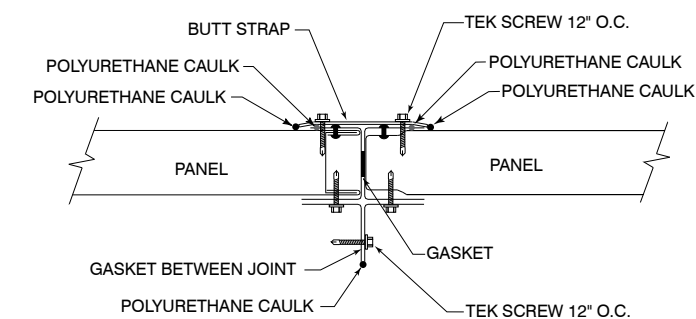

FIGURE 6. Detail of field joint located on side.
- 3) Adjoining ends of modules are covered with plywood and/or plastic sheets during transport. This must be removed prior to hoisting the modules in place. (See **FIGURE 6**). If installation
- 6) After positioning the module correctly, install continuous gasket material on field joint flange as indicated in **FIGURE 6**.
- 13) Complete field joint assembly by applying polyurethane caulk to the exterior of the joint and then cover with butt strap as shown in **FIGURE 6** (on PAGE 5), **FIGURE 8** and **FIGURE 9**.